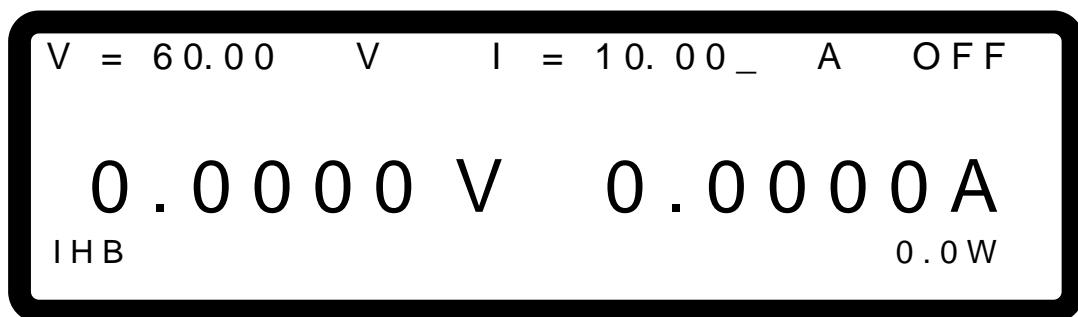

Figure 3-76
3. When protection occurs due to a REMOTE INHIBIT signal the MAIN PAGE will display the protection message as shown in Figure 3-76.